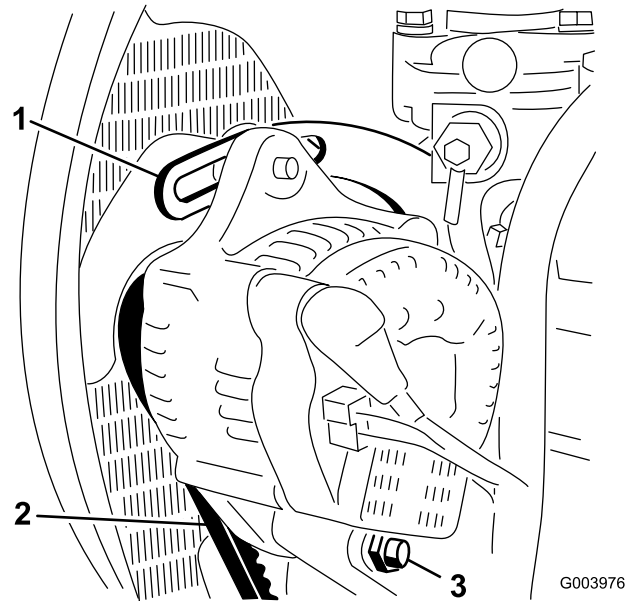

Figure 67
2. Check the tension of the alternator belt by pressing it (Figure 67) midway between the alternator and the crankshaft pulleys with 10 kg (22 lb) of force.
3. Loosen the bolt securing the brace to the engine (Figure 67), the bolt securing the alternator to the brace and the pivot bolt.